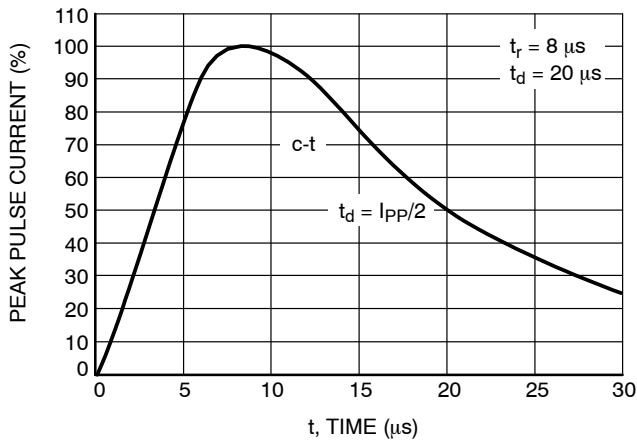

Figure 6. Pulse Waveform (8/20  $\mu\text{s}$ )
1. Non-repetitive current pulse per Figure 6.
- Pulse waveform per Figure 6.